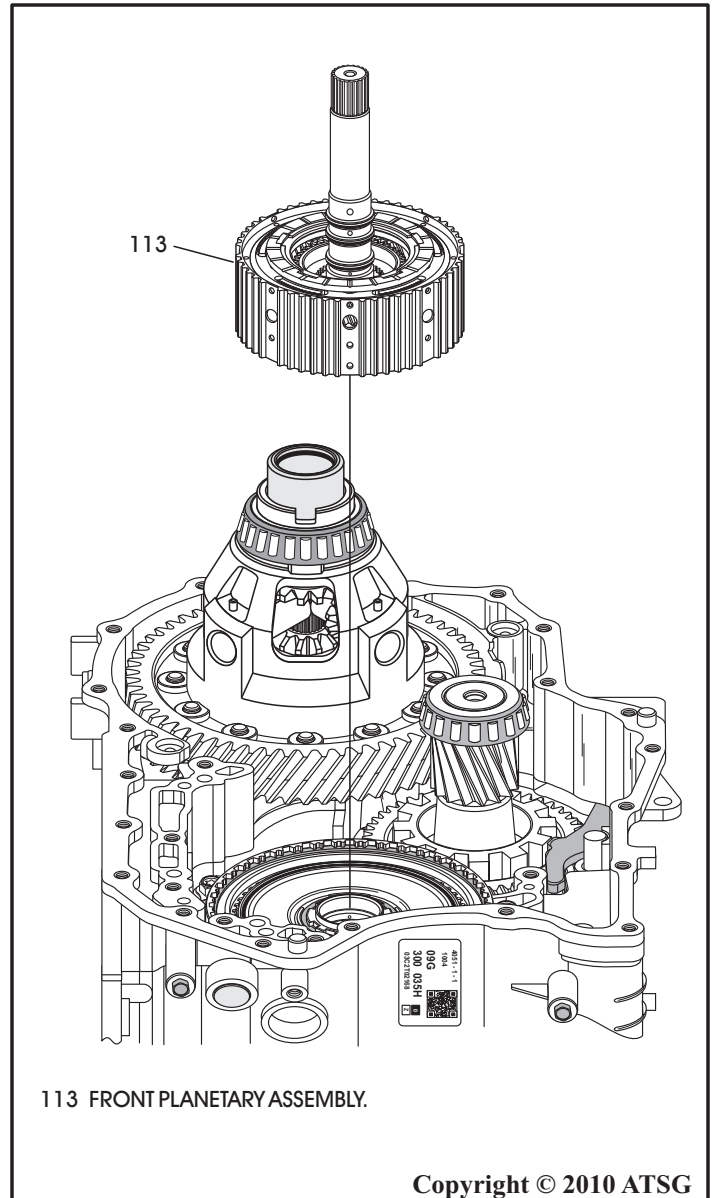

Figure 72
46. Remove the front planetary as an assembly, by lifting assembly straight up using the input shaft, as shown in Figure 72.